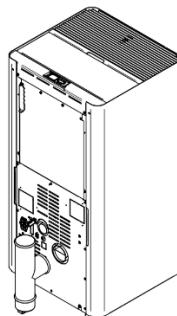
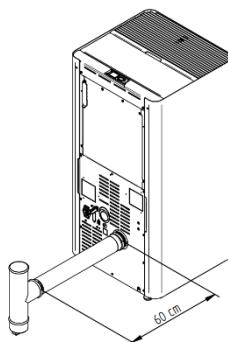

Figure 9 – Inspection tee connection
Figure 10 – Installation of an inspection tee with an elongated part
- Connect an 80 mm diameter pipe to the flue gas outlet and to a gas outlet pipe outside the building (e.g. chimney) - see point figures 9 of this manual.
- The inspection tee should be placed as shown in the Figure 9, if it is necessary to move the chimney away from the equipment, it is only possible to place a pipe horizontally up to a maximum of 60 cm without reductions or disturbances, as shown in the Figure 10.